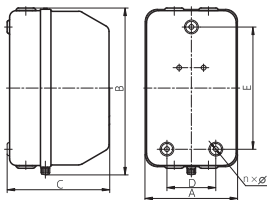
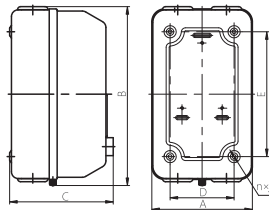

Figure 1 Outline and installation size of NQ2-15, 15N, 15NB
Figure 4 Outline and installation size of NQ2-33P
1) See Fig. 1-Fig. 4 and Table 4 for the outline and installation size of the starter.